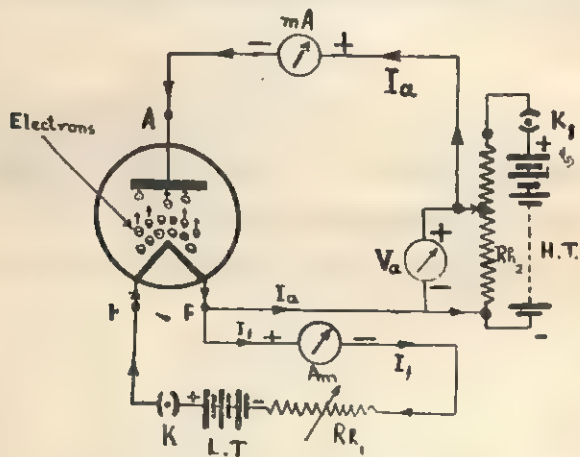

Fig. 12.15. Circuit diagram to determine the  $V, I$  characteristic curve of a vacuum diode
**Procedure.** (1) Draw a circuit diagram as shown in Fig. 12.15 and make circuit connections according to this diagram. Care should be taken to make the connections for H.T. which is a "potential divider" with the help of  $1000\ \Omega$  rheostat ( $Rh_2$ ) and the battery.
(2) Close the plug key  $K$  and adjust the filament current  $I_f$  with the help of the rheostat  $Rh$ , and the ammeter  $mA$ , until the filament is red hot. For  $5U4$  or  $6X5$  diode, it may be about 1 amp.
(3) Apply about 5 volts positive potential to the anode out of the H.T. by closing the key  $K_1$  and note the anode current  $I_a$  in the milli-ammeter  $mA$ . Note also the voltmeter reading  $V_a$ .
(4) Increase  $V_a$  in steps of 5 volts or so, and note the corresponding anode current  $I_a$ . Care must be taken to keep the filament current constant.
(5) Repeat steps (2), (3) and (4) for two different filament currents.
(6) Tabulate the observations as shown below :